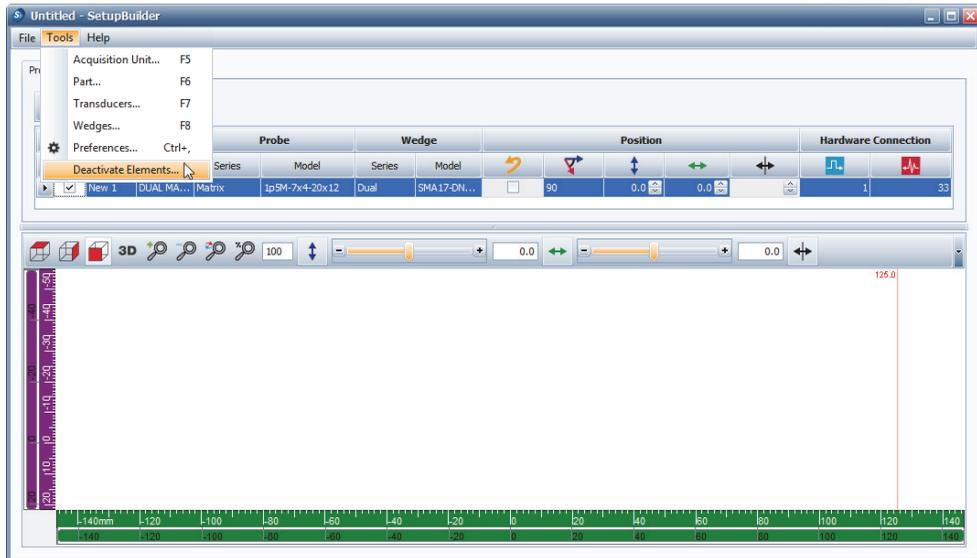

Figure 9-13 Selecting the Deactivate Elements command from the Tools menu
1. On the **Tools** menu, click **Deactivate Elements** (see Figure 9-13 on page 111).